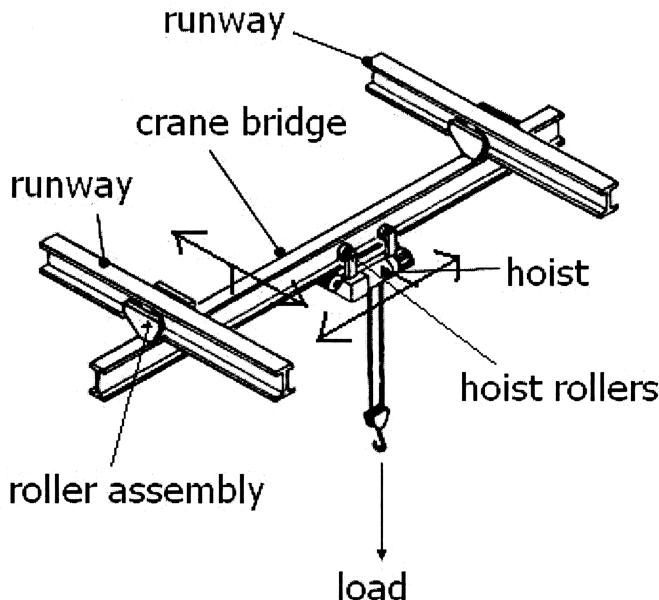

Figure 2: Gantry crane lifting a load
- (b) (i) By drawing isometric and exploded drawings of the individual parts, sketch out the force flow lines from the load to the runways of the gantry crane shown in Figure 2. (3 marks)
- (ii) State the Rules of Embodiment Design, explain the 3 phases of Safety Rule and elaborate how you would apply the rules for Direct, Indirect Safety and Warnings specifically to the product in Figure 2. (3 marks)
- (iii) For Direct Safety, apply FMEA (Failure Modes and Effect Analysis) to ensure the most critical of the component (of your choice in Figure 2) is safe at the maximum design load. Show the steps of FMEA and making suitable assumptions, describe the calculation based upon Mechanics of Solid theory to ensure Direct Safety. Note: There is no need to show numerical calculations, only descriptive answer is needed. (3 marks)